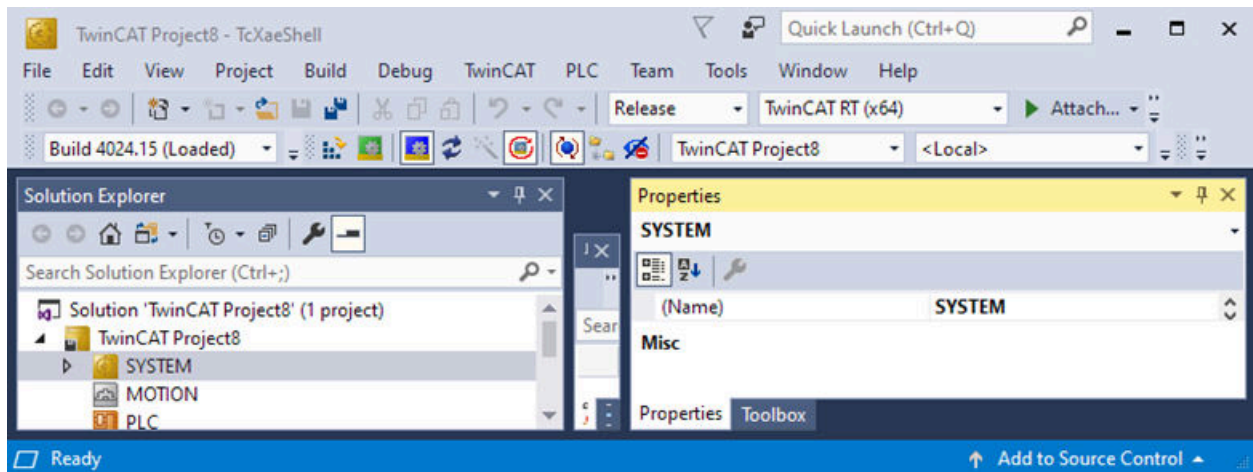

Fig. 12.3: Project running configuration
3. The *Restart TwinCAT (Config Mode)*, *Toggle Free Run State*, and *Show Online Data* buttons should all be pressed, as shown in Fig. 12.3.